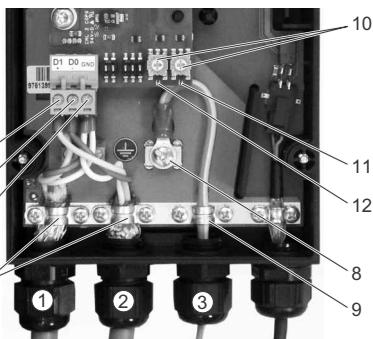

Fig. 4 Cable connections
Depending on the local network installation, one or two cables can be connected to the Modbus connections (fig. 4, pos. 1 and 2).
See fig. 4.
Note *The Modbus address is set via DDA pump menu. Therefore the rotary switches (fig. 4, pos. 10) have been deactivated from factory.*
The LED (fig. 4, pos. 11) indicates the status of GENibus connection.
Note *The LED (fig. 4, pos. 12) indicates the status of Modbus connection.*